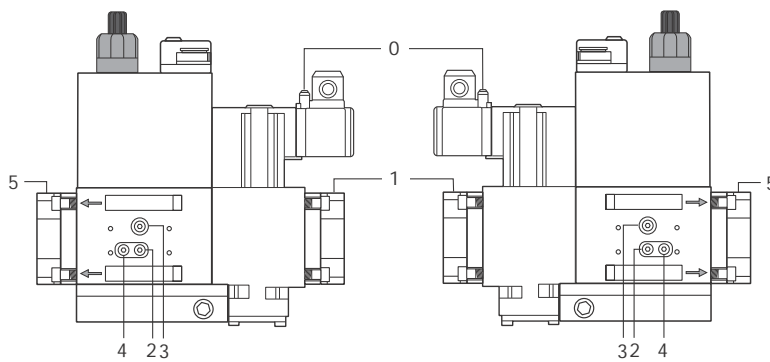
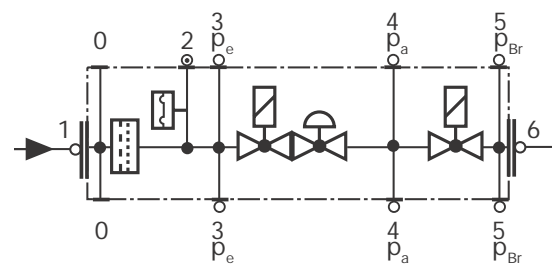

Fig. 35
Fig. 36
- 1 remove the cap unscrewing the fixing screws (A);
- 2 remove the filtering cartridge (B), clean it using water and soap, blow it with compressed air(or replace it, if necessary)
- 4 be sure to replace the “O” ring into its place (C) and replace the cover fastening by the proper screws (A).
- Change the filter if the pressure difference between pressure connection 1 and 2 (Fig. 35-Fig. 36) $\Delta p > 10$ mbar.
- Change the filter if the pressure difference between pressure connection 1 and 2 (Fig. 35-Fig. 36) is twice as high compared to the last check.